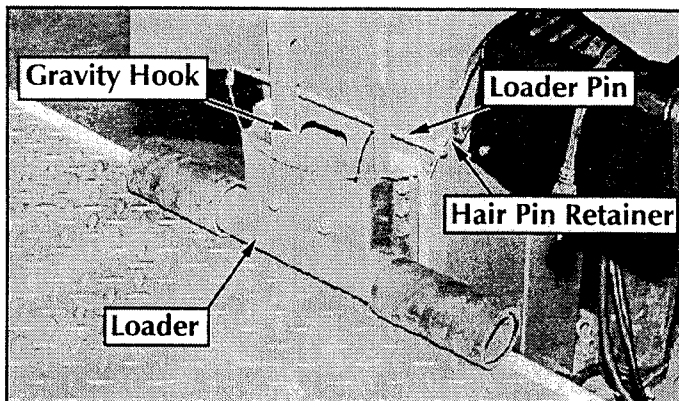

Figure 3-8: Compact Loader, in load position
If your Loader looks like the one in Figure 3-8, follow these directions:
4. Release the gravity hook and slide the loader down until it comes into contact with the vehicle bed or tailgate, Figure 3-8. Then place the loader pin in the **first** available set of holes **above** the loader and secure with the hair pin retainer.